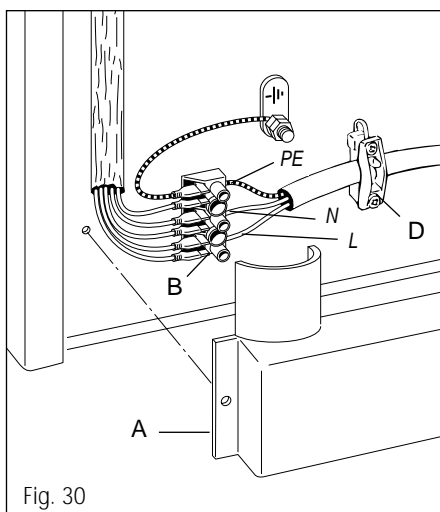

Fig. 30
The electrical connection must be connected to the terminal block "B" (fig. 30) and must only be carried out by a qualified electrician. A cable of the correct rating of this appliance must be use type **H05RR-F** section 3x1,5 mm2.
- Remove the screws securing the cover "A" (fig. 30) on the rear of the cooker.
- Remove the screws from the cable clamp "D" (fig. 30) and feed the cable through the clamp.